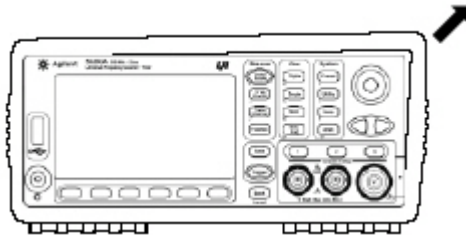

Figure 3-7. Front Rubber Bumper Removal
- 5 To remove the front rubber bumper, stretch a corner and then slide it off as shown in Figure 3-7.